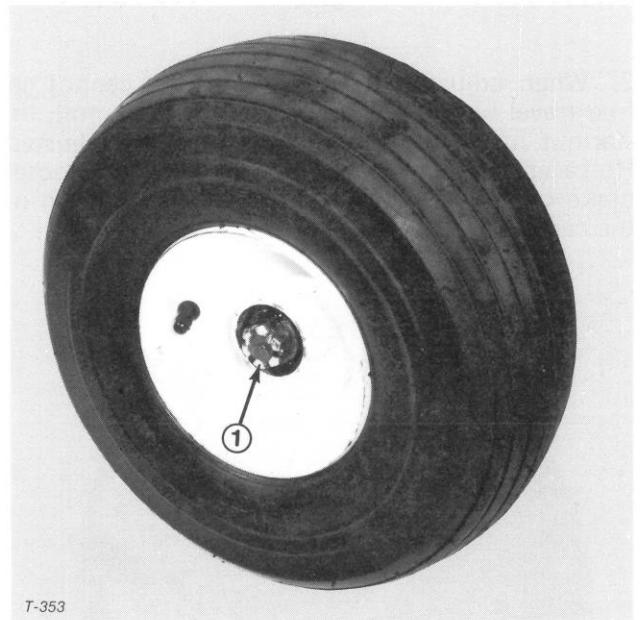

Figure 57
2. Remove dust cap from end of wheel spindle. Also remove cotter pin retaining slotted nut in place (Fig. 57).